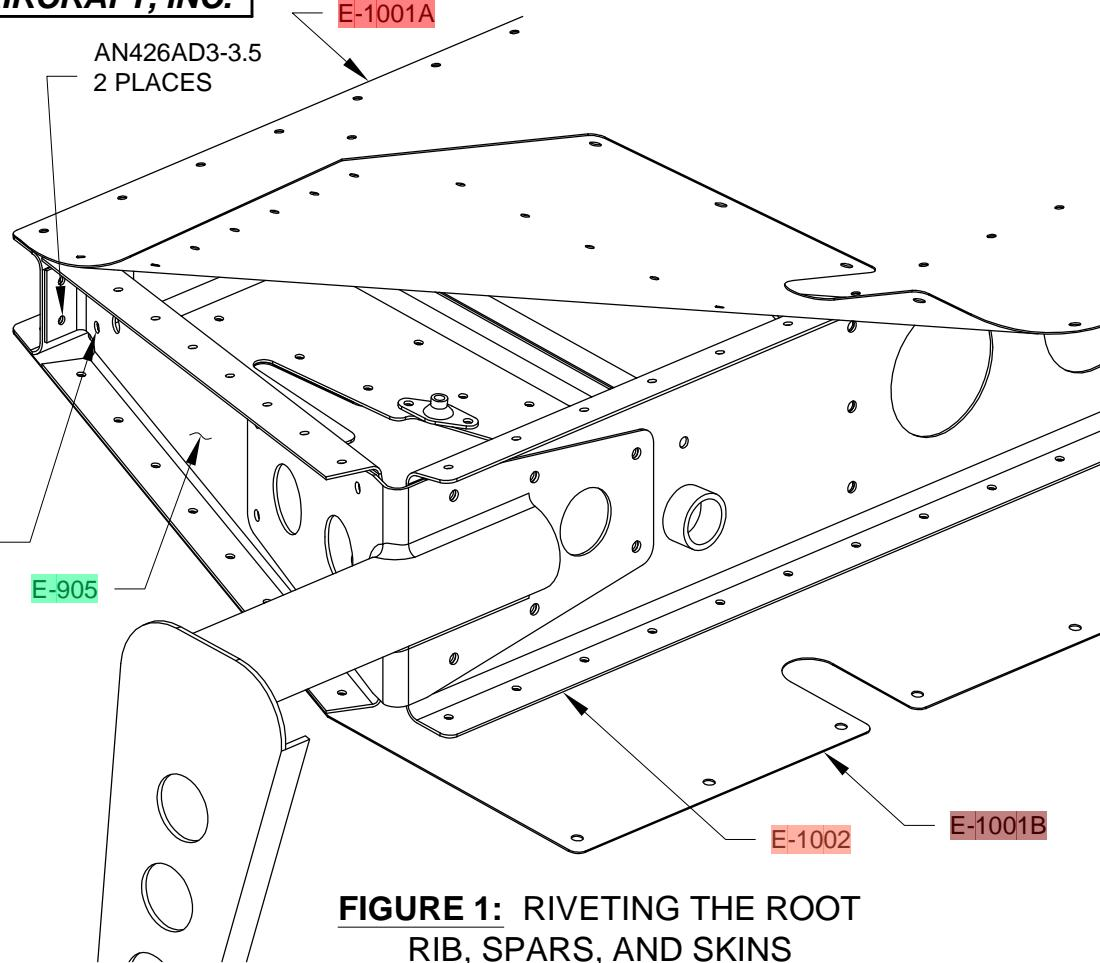

FIGURE 1: RIVETING THE ROOT RIB, SPARS, AND SKINS
Step 3: Place the elevators on a flat work surface with the clecos securing the E-1001 Skins to the E-1002 Front Spars hanging over the edge. Rivet the skins to the spars using the rivets shown on Page 9-20, Figures 1 & 2. For the time being, however, leave out the rivets in the spar flanges outboard of the outboard most E-1008 Rib and inboard of the inboard most rib. Not installing these rivets leaves the outboard and inboard sections of the elevators accessible for riveting the E-903 and E-904 Tip Ribs and the E-921 Elevator Gusset.
Step 1: Rivet the aft flange of the E-905 Root Rib to the E-1007 Rear Spar using the rivets shown in Figure 1.
Step 3: On this end of the elevator, rivet the E-1001 Skins to the flanges of the E-905 Root Rib and E-1002 Front Spar using the rivets shown on Page 9-20, Figures 1 & 2.
Step 6: The rivets used in this step can be found on Page 9-20, Figures 1 & 2. Rivet the E-1001A Top Skin to the flange of the E-1002 Front Spar. Rivet the skin to the E-913 Counterbalance Skin and the flange of the E-903 Outboard Tip rib. Don't rivet to the flange of the tip rib aft of the rear spar; the E-1023 Trailing Edge still needs to be inserted.